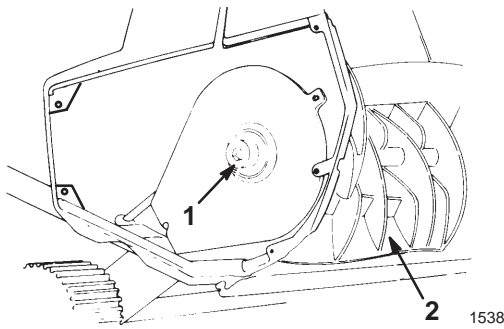

Figure 14
2. Using a 3/8-in. Allen wrench, turn the rotor shaft clockwise (left hand thread) while holding the rotor (Fig. 14).